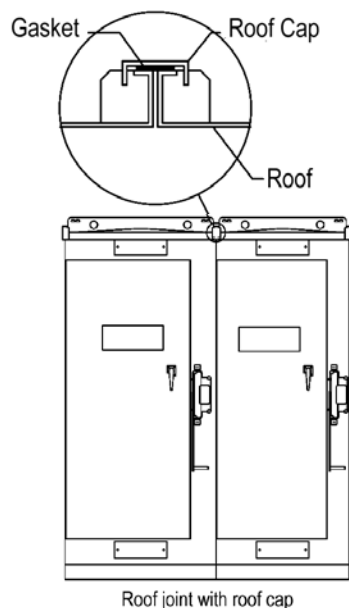

Figure 5. Installation of roof caps over roof flanges on outdoor switchgear.
On Federal Pacific **outdoor** switchgear a suitable outdoor caulk (Sealant #GE108) should be applied to seal the surfaces between the cubicles. For the roof seal Federal Pacific uses a roof cap channel design with a gasket (furnished) to prevent water from entering into the connecting bus area. See Figure 5).
Step 6 - On outdoor switchgear, after all bays are in place and bolted together, install roof caps and gaskets (furnished) over roof flanges (See Figure 5) between bays and bolt in place using the hardware furnished. Using an outdoor rated caulk, #GE108, caulk the vertical edges between adjacent cubicles. It is not necessary to caulk the metal surfaces between the roof cap hardware and the roof cap gasket. Install and tighten bolts and nuts at edges of through-bus openings on adjacent bays using the hardware furnished.